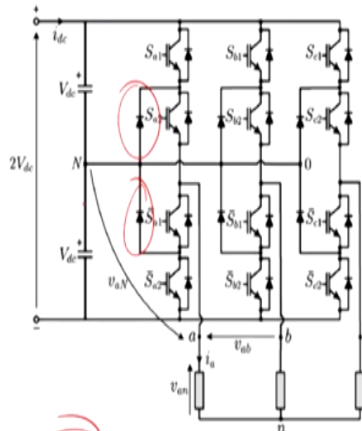

Fig.8: Three-level neutral point clamped power circuit
- ❖ The flying capacitor (FC) or capacitor clamped, and
- An NPC converter is composed of two two-level VSCs stacked one over the other with some minor modifications (see Fig.8).